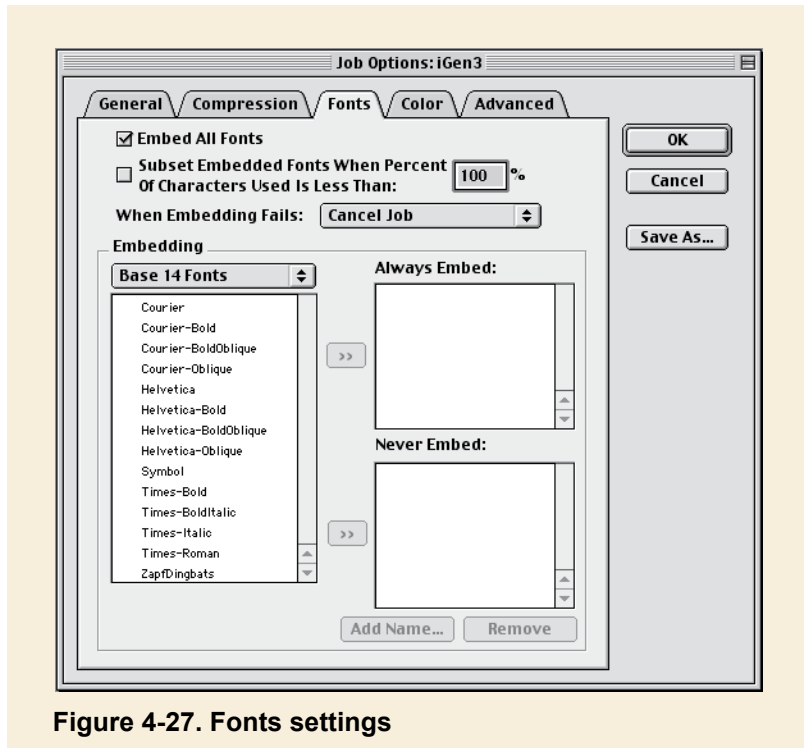

Figure 4-27. Fonts settings
- **Fonts settings** - (Figure 4-27) If jobs fail while Distilling, check if fonts are missing from the job in the PostScript file. The following settings recommend to Cancel the job when fonts are missing to ensure the document will print correctly.